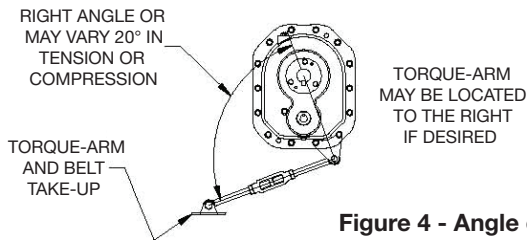

Figure 4 - Angle of Torque-Arm
7. Install TORQUE-ARM fulcrum on a rigid support so that the TORQUE-ARM will be approximately at right angles ($\pm 30^\circ$) to the center line through the driven shaft and the TORQUE-ARM anchor screw (Figure 4). Make sure that there is sufficient take-up in the turnbuckle for belt tension adjustment when using V-belt drive.